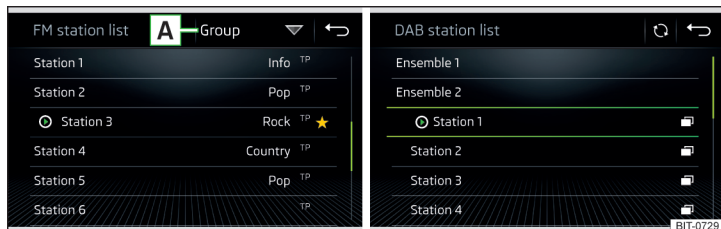

Fig. 179 Example, the list of available FM/DAB stations
- ▶ To **Sort** (FM) the stations in alphabetical order, by group or genre, tap on the function surface  $\square$  » Fig. 179 »  $\square$ .
- ▶ To **filter** the stations based on the program type (e.g. Music, Sport etc.) in the FM station list (with activated RDS function) and the DAB station list (with alphabetical sorting of the channel list selected), tap the function surface  $\square$  » Fig. 179.
- ▶ To **manually** update, tap on the function surface  $\square$  » Fig. 179.